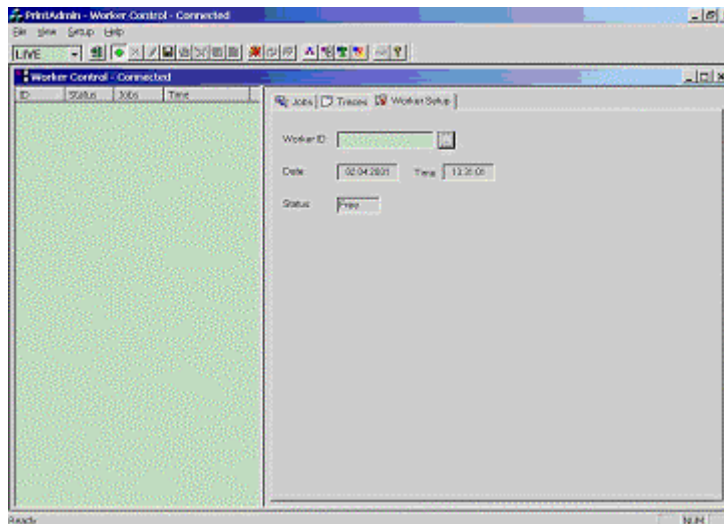

Figure B-18. Print Admin Screen - Worker Setup Tab
4. Click on the Worker Setup tab (Figure B-18).